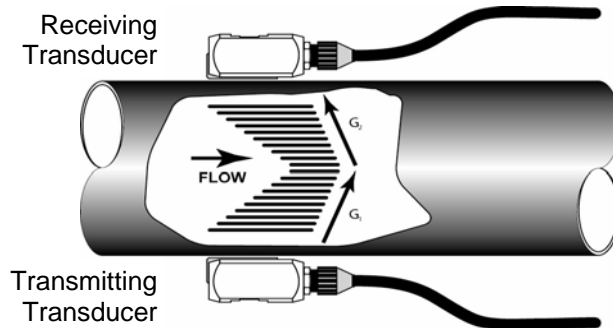

Figure 2 Transducer
- D. Place each transducer under the mounting strap, 180° apart on the pipe. Ensure that the transducer cables are facing the same direction. See **Figure 2**.